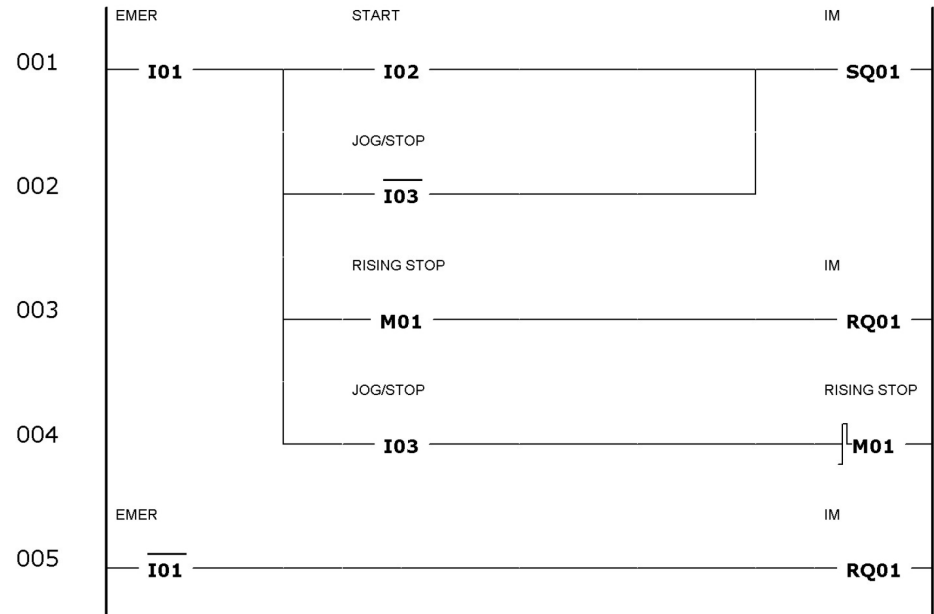

Figure 2-10. Jog/Run with independent push buttons ladder program.
- ☐ 15. Enter the program shown in Figure 2-10.
4. In the Figure 2-10 ladder program, which programming unit is the logical equivalent of the Control Relay in Figure 2-7?